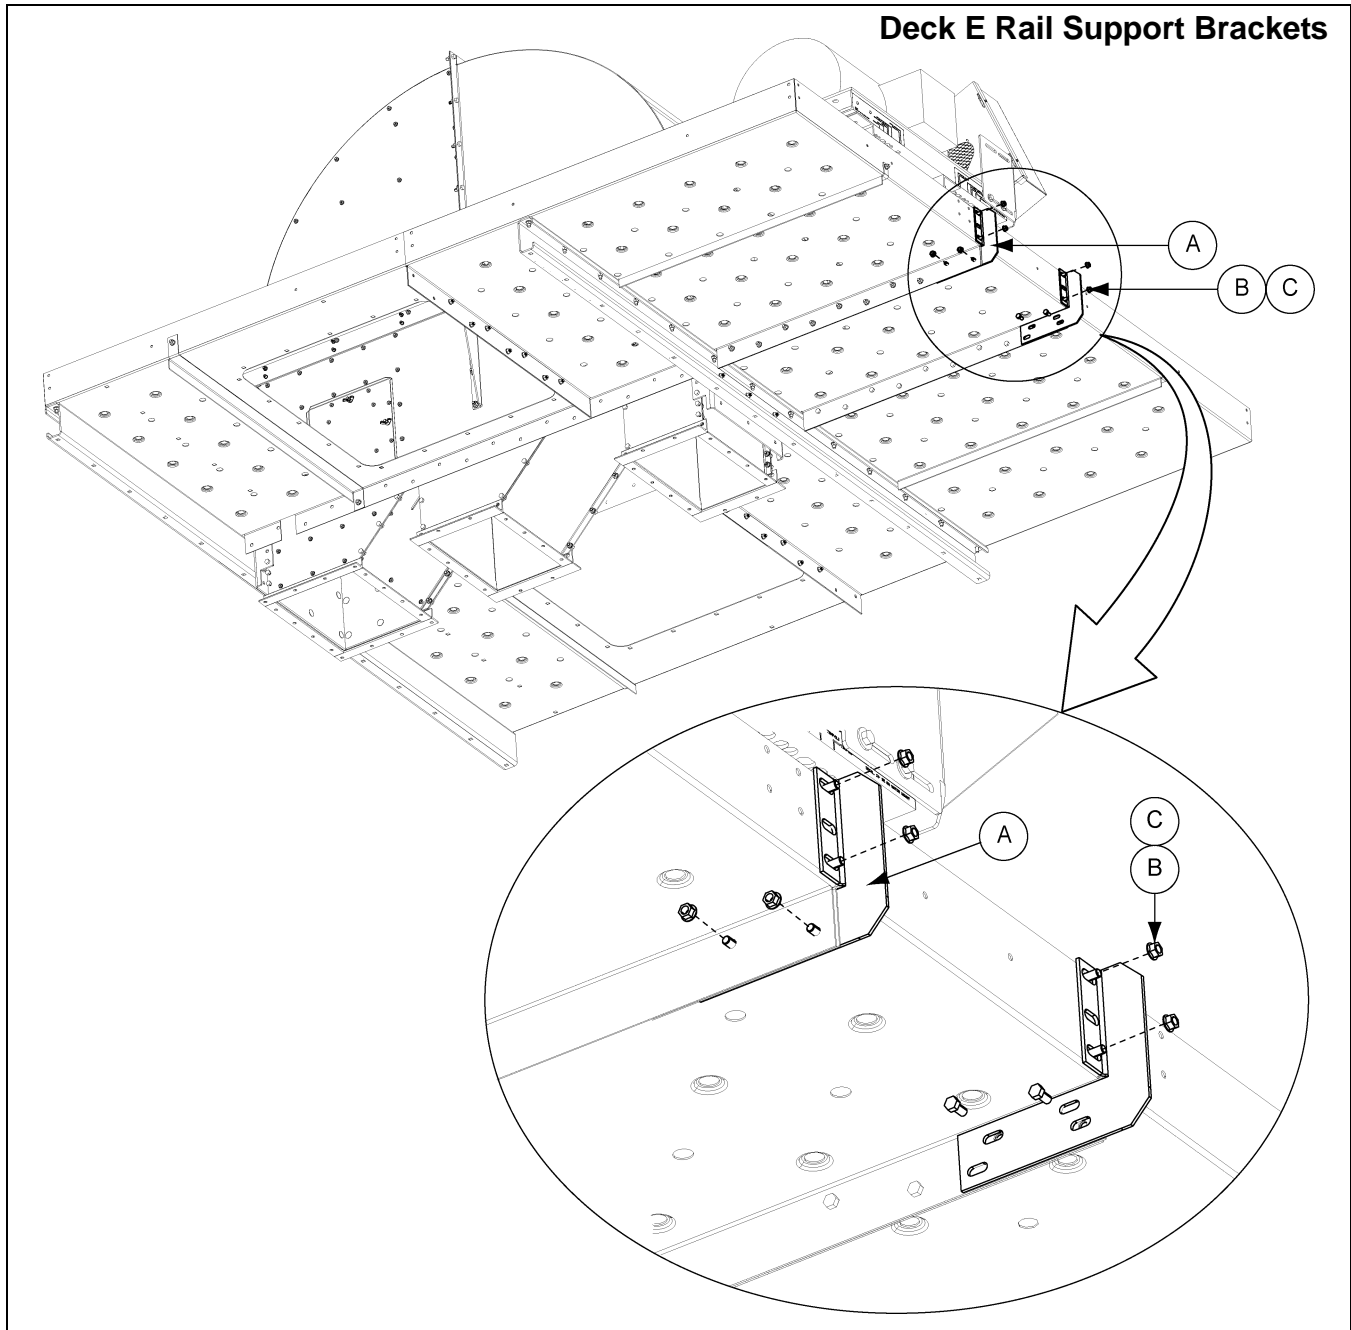

Figure 8N 24" Deck E Rail Support Brackets
1. Attach two (2) head platform rail supports (HP1648HSH) to Deck E as shown using 3/8" x 1" bolts (S-7105) and 3/8" flange nuts (S-10028). (See Figure 8N.)